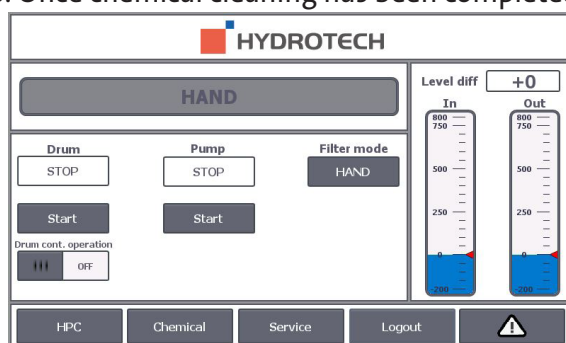

Figure 7.11 Main menu in HAND operating mode.
3. Select “Chemical” on the operator panel, see Figure 7.11.